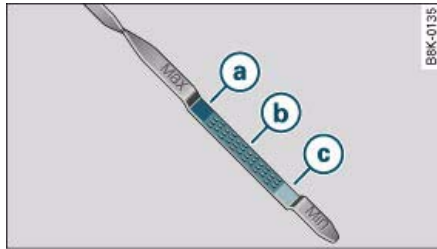
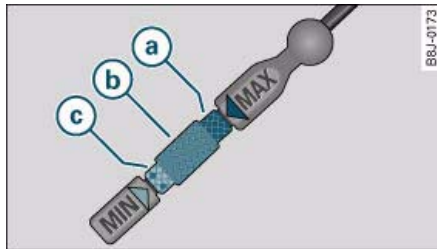

Fig. 253 Variant 1:
Fig. 254 Variant 2:
- Then pull the dipstick out again and check the oil level ⇒ fig. 253 or ⇒ fig. 254. If the oil level is too low, add more engine oil ⇒ *page 259*.
- The oil level must never be above area **a** ⇒ *page 258, fig. 254*, as this may result in damage to the catalytic converter or to the engine. On vehicles without an oil dipstick, you can check the oil level via the sound system or MMI\*. Contact a qualified workshop to extract the engine oil if necessary.